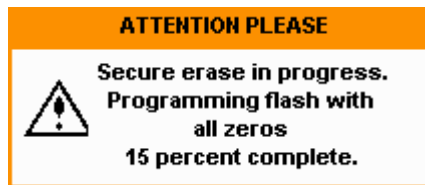

Figure 3-59 Warning pop-up
- 3 A warning pop-up will be displayed to inform you that the secure erase is in progress (see Figure 3-59).